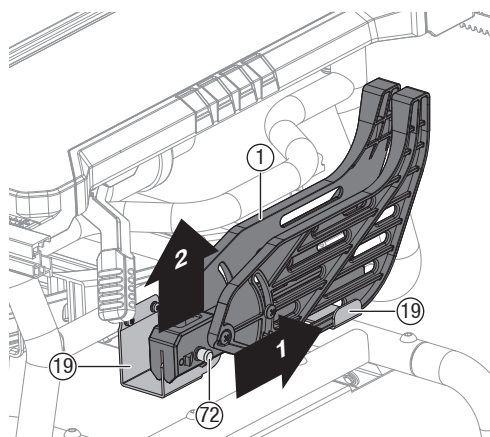

Fig. 8a
BLADE GUARD INSTALLATION (Fig. 8a-8c)
- Hold the knobs (72) (one on either side of the blade guard) and push the knobs forward to the front of the blade guard and up until the pin comes out from the slot in the mounting bracket (blade guard storage) (19) at bottom front right side of the saw, then remove the blade guard from the U-bracket (blade guard storage) (19) at bottom middle right side of the saw (Fig. 8a).